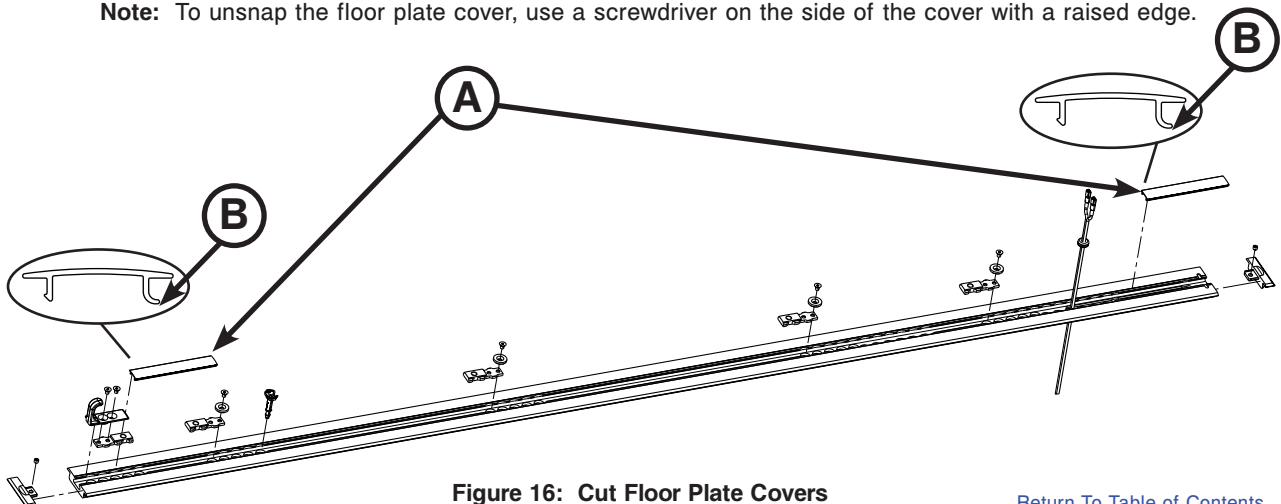

Figure 16: Cut Floor Plate Covers
38. Using a saw, cut the two floor plate covers (6390-001-166) (A) to fit the measured length on both ends (Figure 16). The floor plate cover does not fit over the floor plate attachment bracket.